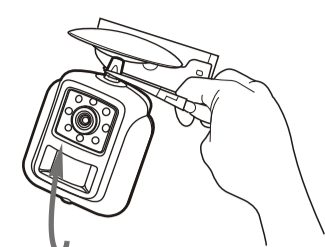

Fig. 9
**Note:** After adjusting the viewing angle, make sure the camera body is attached to the pivot of the bracket tightly. If it is loose, use one hand to hold the camera body steady, and with the other hand, use pliers to pinch the flat surfaces on the pivot. Swivel the pivot clockwise to tighten. See Fig. 9.